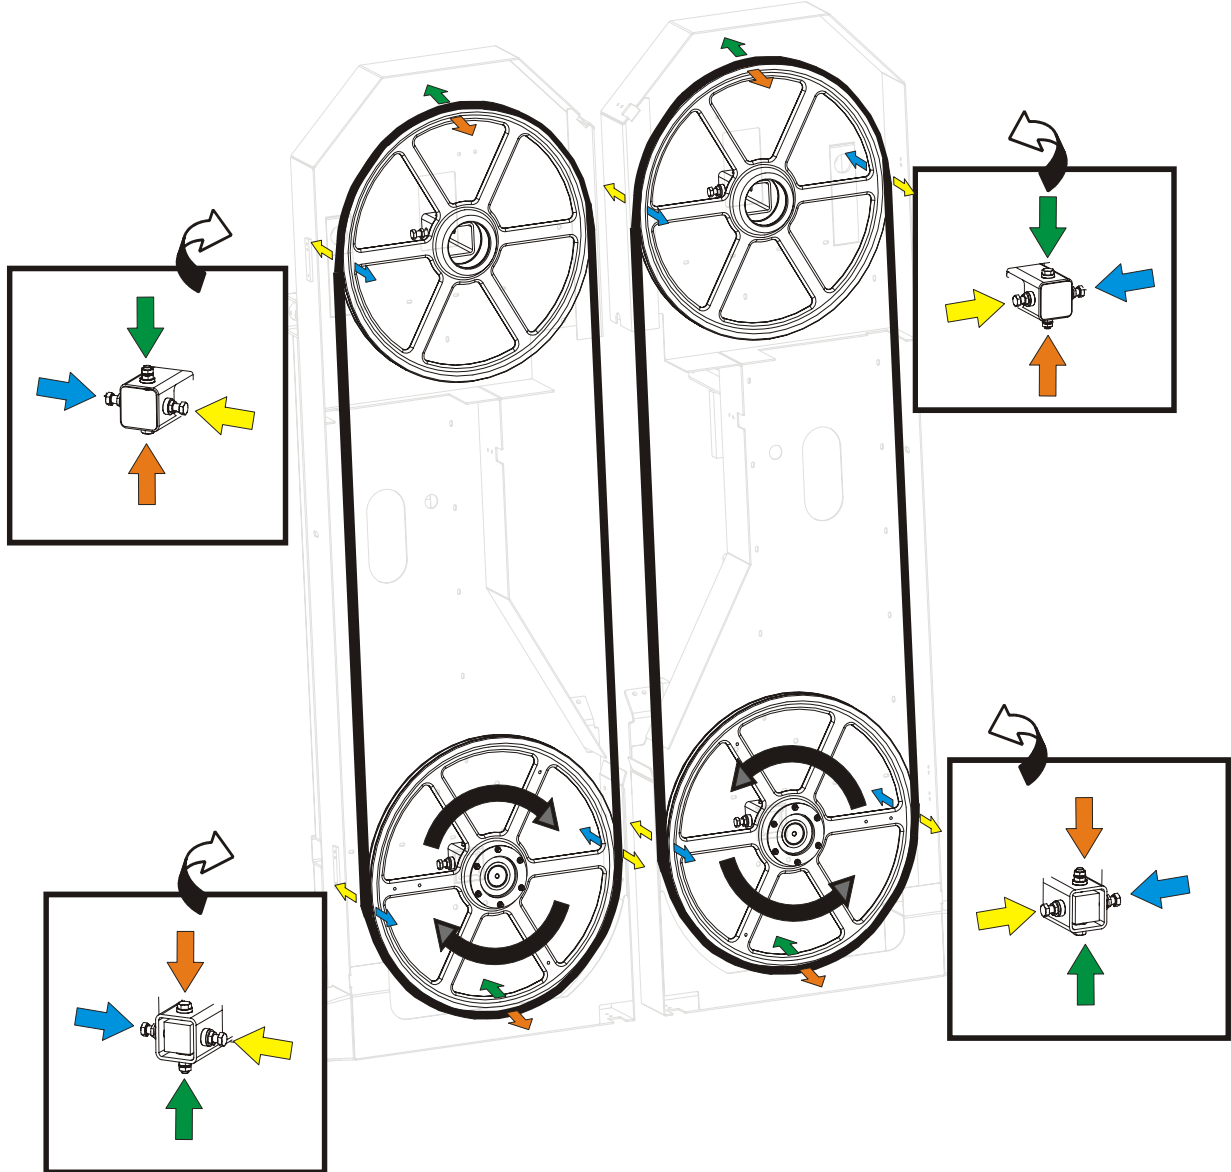

FIG. 5-21
**See Figure 5-21.** Arrows show which bolts should be used to tilt the wheels in required